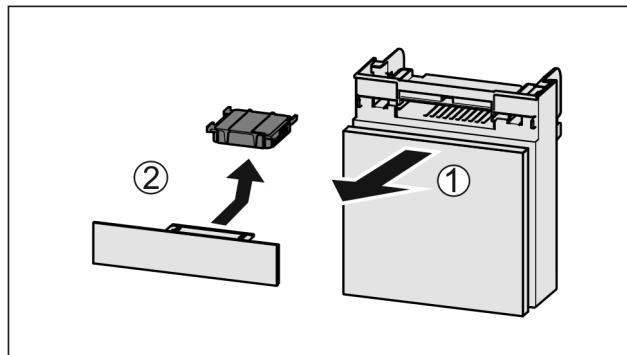

Fig. 118
- Pull out the compartment Fig. 118 (1).
- Remove the carbon filter Fig. 118 (2).